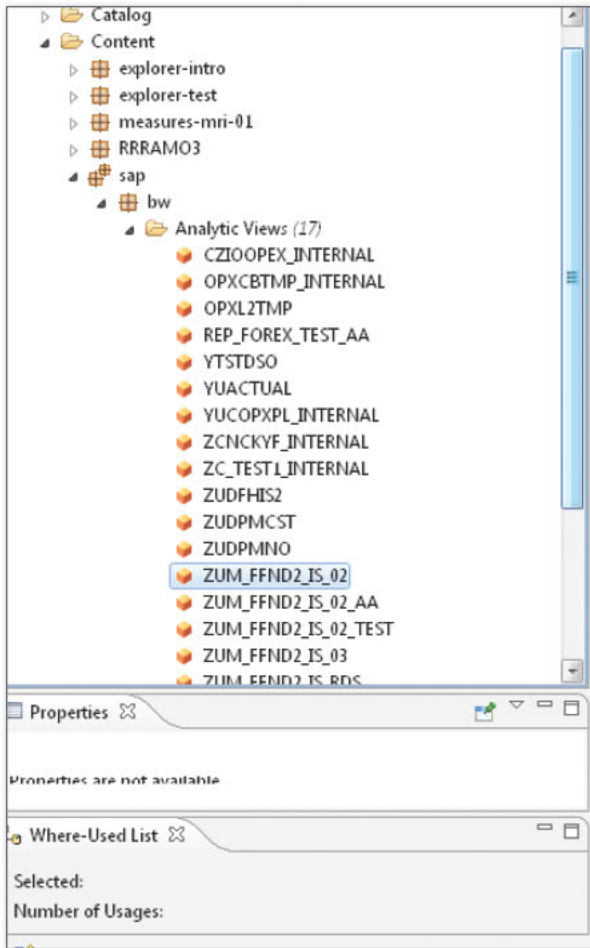

Figure 3 SAP HANA Model Analytical View Created for the DSO
8. The SAP HANA model will be created and activated. You can view the SAP HANA model by going to the SAP HANA system, choosing the content folder, and then clicking on SAP • BW and then the package (see Figure 3).